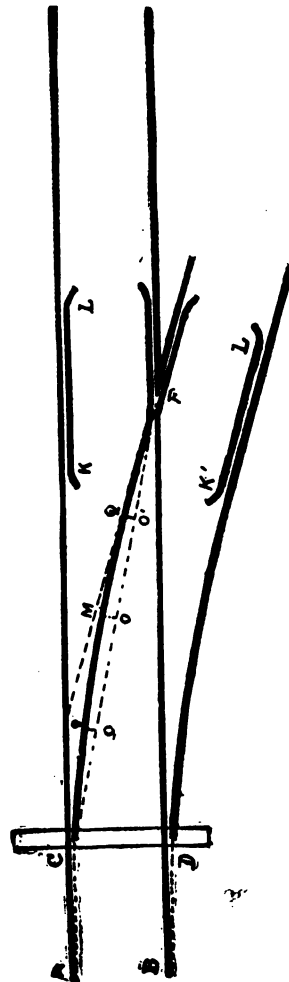

Fig. 16.
The common or "stub" switch, consists of a pair of connected rails, A C, and B D, Fig. 16, so arranged that while one end is fixed, the other can be moved so as to be a part of either the main track, or turnout. The
Stretch a cord from point of frog to the toe of switch, see Fig. 16, and mark its center and quarter points. In all stub switches, spike the center to an ordinate of seven inches; and each of the quarters to an ordinate of  $5\frac{1}{4}$  inches and this forms the true line of the turnout curve.
5. For stub leads, table 1 gives all the data necessary to lay out turnouts, whether single or double, from straight track or curves and for any frog number. In the first column are given the frog numbers, the angles corresponding to them in the second. The third column gives the length lead, from point of frog to heel of switch. In the fourth, the length of switch rail for a 5 inch throw. Columns 5, 6 and 7 show respectively, tangent, radii and degree of curvature. Column 8 gives length of cord C F, Fig. 16. Columns 9 and 10 gives respectively middle and quarter ordinates when turnout is laid from a straight track. Columns 11 and 12 are used in obtaining the ordin-